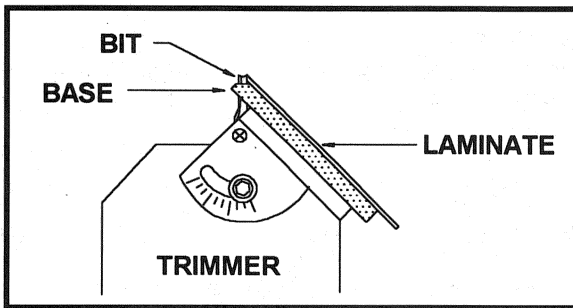

Fig. 3
1. Stand the trimmer on its top, and position a piece of scrap laminate to the base (see Fig. 3).